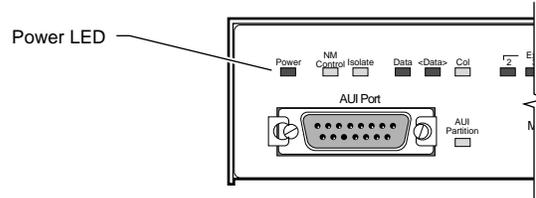

Figure 2-5. Power LED
5. Check the Power LED on the front panel (see Figure 2-5). If it does not light, contact the customer support department of the organization from which you purchased your Model 28xx.